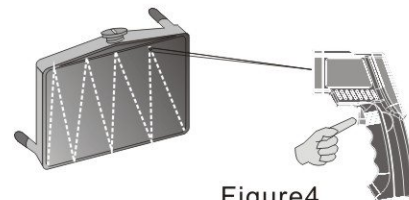

Figure4
- 5>. Locating a hot spot: To find a hot spot aim the thermometer outside the area of interest, then while still holding the trigger, scan across with up and down motions until you locate the hot spot. As shown in figure 4: